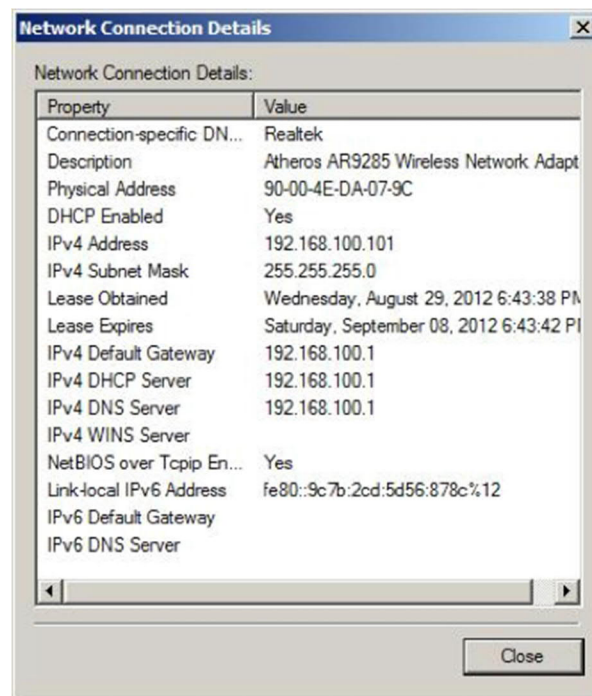

Figure 87: Network Connection Details Window
11. Click the Details button to display the *Network Connection Details* window. (Figure 87)
12. Verify the *IPv4 Address* of the Windows device, which should be either 192.168.100.100 or 192.168.100.101. For example, the Windows device IP address is 192.168.100.101. (Figure 87)
15. Enter the analyzer’s address in the VNC server address field (192.168.100.100 or 192.168.100.101), from Figure 87.